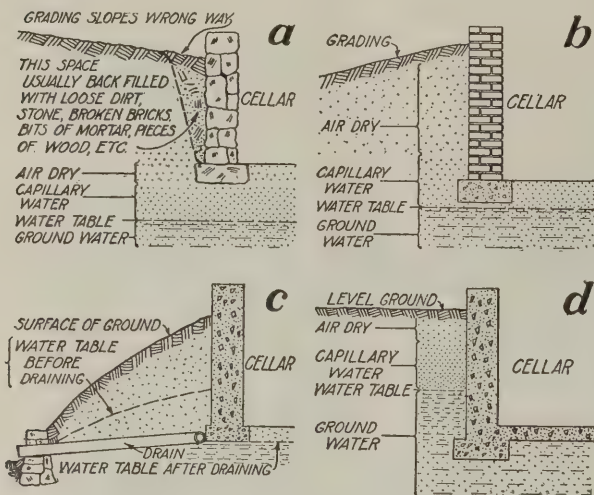

Fig. 1. Four classes of ground and ground water conditions
*Studying the Causes.*—The causes of damp and wet cellars group naturally into four classes represented diagrammatically in figure 1.
(a) Where the cellar bottom is above the capillary reach of the ground water, but, because of faulty walls, backing, or grading, eaves water, melting snow or other surface drainage passes into the cellar. (See figs. 1 (a), and 2 and 3.)